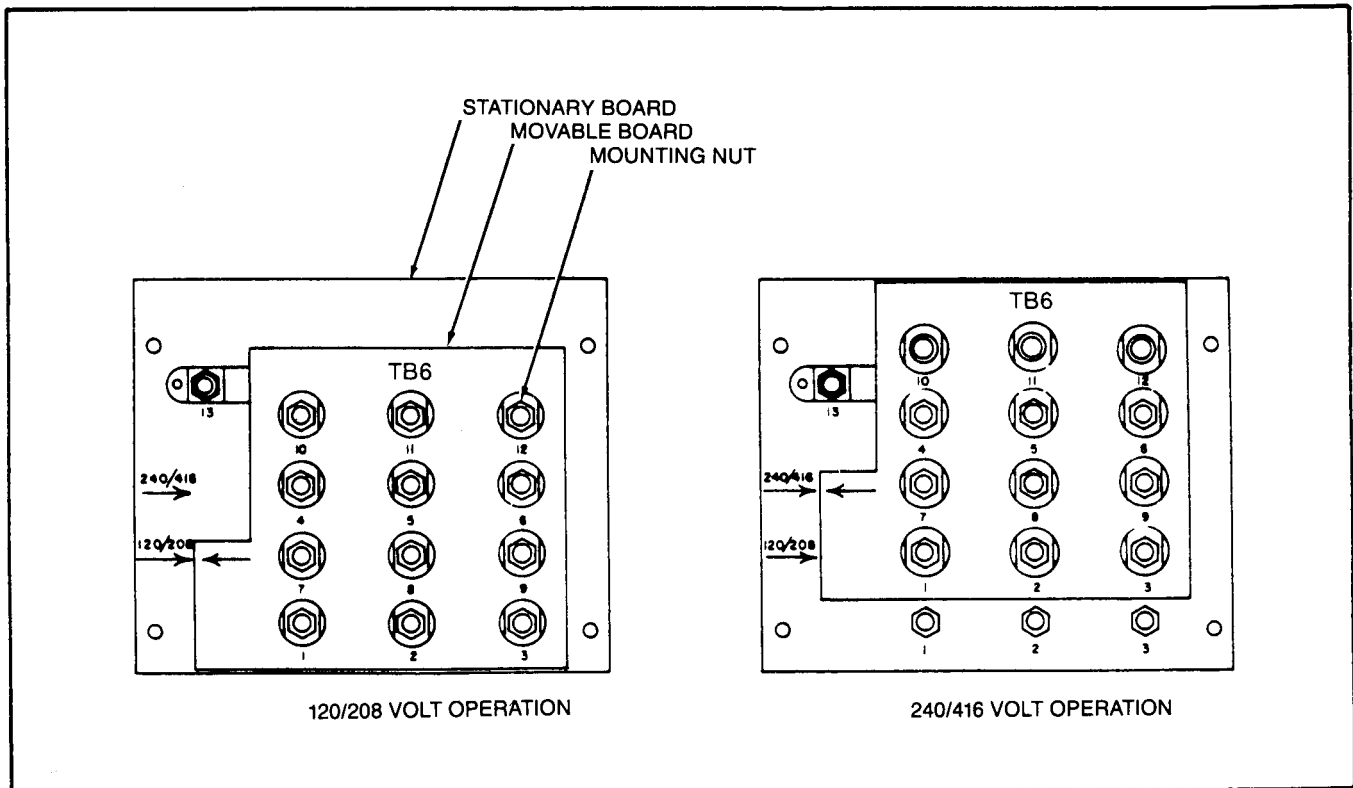

Figure 2-6. Voltage Reconnection Board
(1) Remove 12 mounting nuts (figure 2-6) and locate the movable board until the arrow at its edge